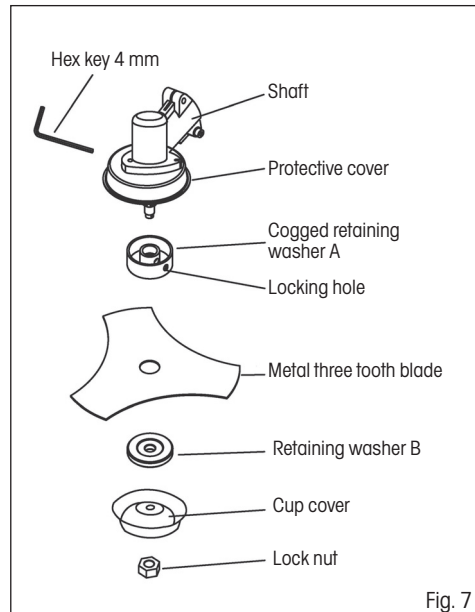

Fig. 7
- ✿ Lock the shaft in place by inserting the included 4mm hex key (see Fig. 7). To achieve this, it is necessary to align the hole in the protective guard with the hole in the shaft and insert the hex key.